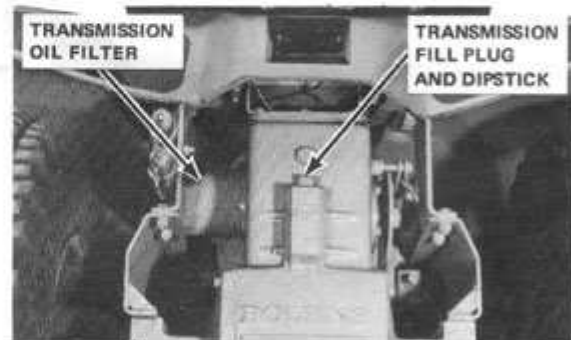

Figure 6
8. With transmission cold, thoroughly clean area around hydrostatic transmission fill plug area. Check that transmission lever is in PARK. Start engine and allow it to idle. Remove fill plug dipstick and check transmission fluid level. Refer to Figure 6.